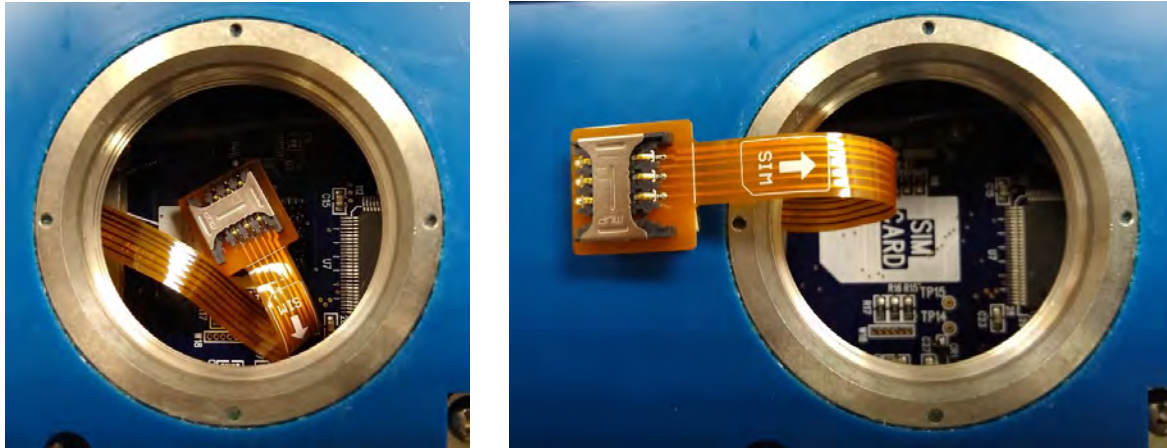

Figure 3-3 SIM card extender and Micro SIM adapter
2. Pull up on the adapter and pull the ribbon cable out through the hole (Figure 3-3).